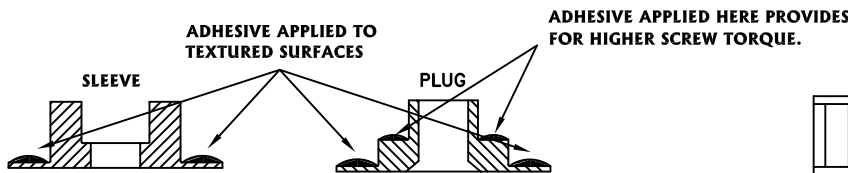

FIGURE 1
- D. Apply the adhesive in a manner that will ensure it completely covers the faying surface between the insert flange and panel after insert installation. If adhesive is applied to the panel, do not apply it outside the area covered by the insert flange. See figure 1.